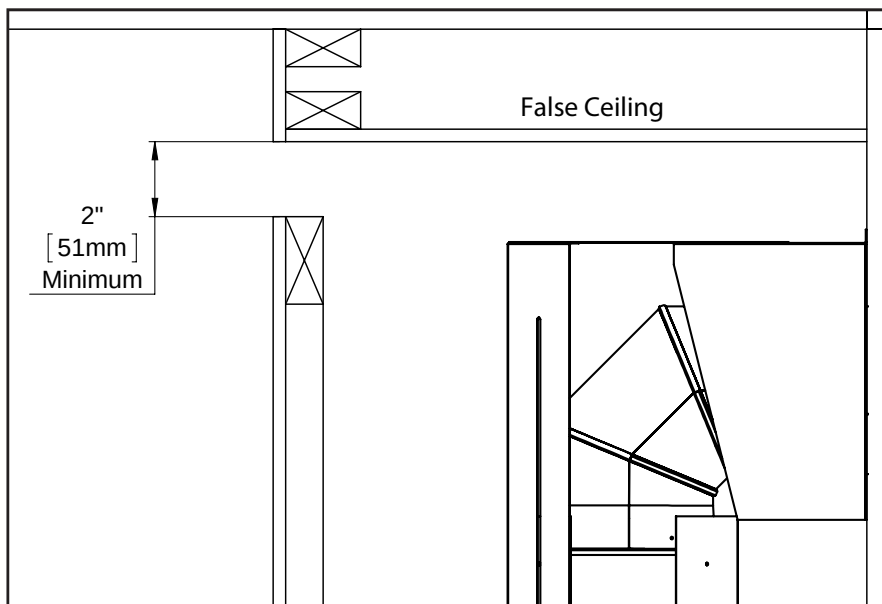
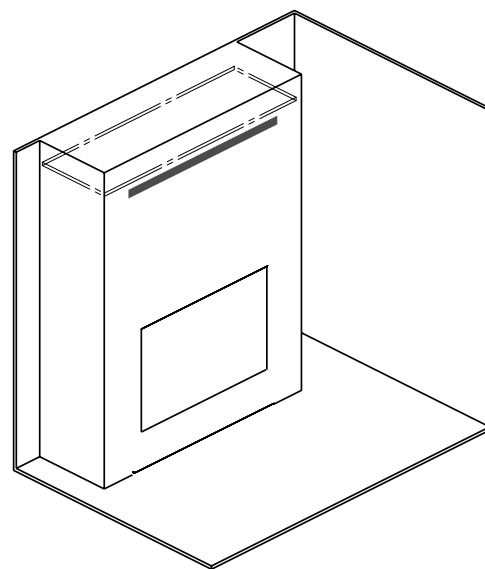
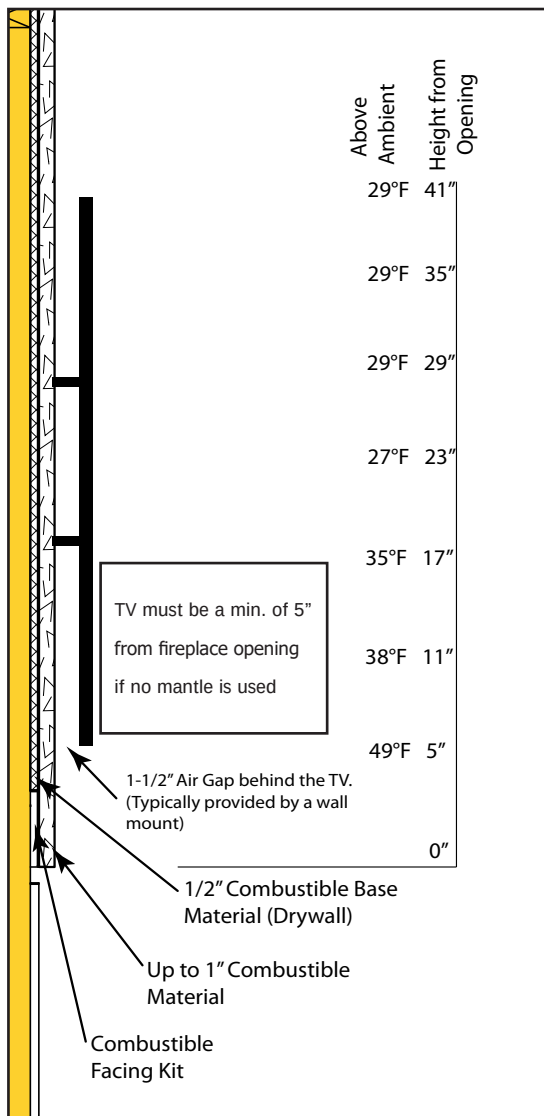
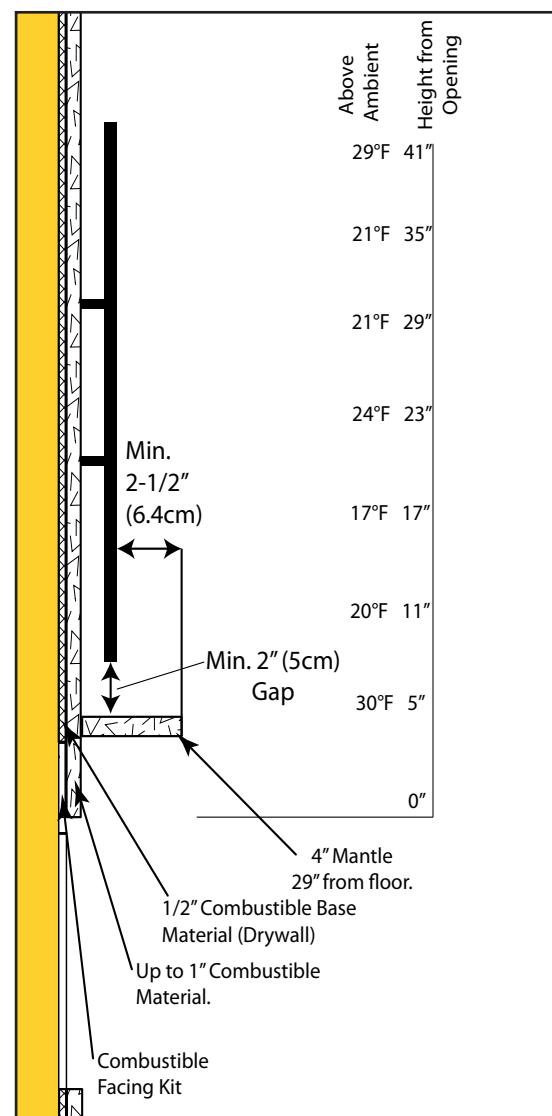

Figure 26: False Ceiling
Figure 27: False Ceiling Iso View
Figure 31: CSS TV Clearances
Figure 32: CSS TV Clearances
The location for the fireplace can be raised, at floor level, or installed in a corner. There are specific framing measurements for each situation. The basic rough opening should have the dimensions shown in Figure 31. The fireplace must have a strong and level surface to be placed on. The surface should be made of wood or a non-combustible material.
If your ceiling dimension is greater than the minimum (figure 27) You may want the CSS Air discharge lower on the wall. To do this a false ceiling is required to properly evacuate the heat from the chase (figure 26).
**During testing temperatures did not exceed 121°F (49°C)** midway up the front wall (Figure 31 & Figure 32). There is no guarantee that these temperatures will not harm the longevity of your TV. Make sure to consult your TV manufacturer's specifications to find the maximum allowable operating temperature. Since every home and installation is unique, temperatures should be verified at the time of install if possible. If desired, front wall temperatures can be lowered to 104°F (40°C) with the use of a mantle (Figure 26). Refer to page 24 for revised mantle clearances. A TV should not be installed if temperatures exceed the manufacturers maximum allowable temperature.